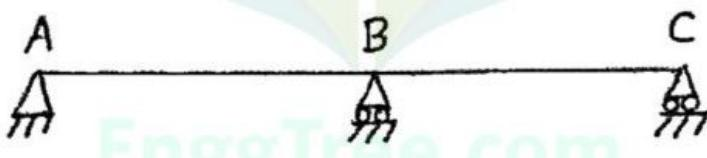

Figure 1
12. (a) A two span continuous beam ABC with spans AB = BC = 4 m (Figure 1). Determine and construct the influence line diagram for shear force at a point 3 m from the support A. Compute the ordinates at 1 m intervals.